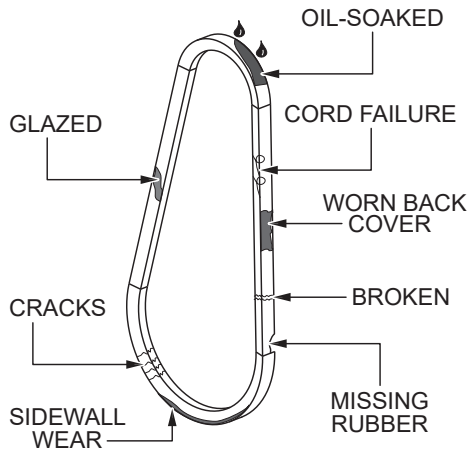

Figure 29. V-Belt Inspection
1. Inspect the V-belt (Figure 29) to determine if it is frayed, peeling, full of tiny cracks, has pieces of rubber missing, or is otherwise damaged.
2. Inspect the V-belt (Figure 29) to determine if it is oil-soaked or *glazed* (a hard, shiny appearance on the sides of the belt). Either of these conditions can cause overheating of the belt, which may weaken the belt and increase the possibility of it breaking.